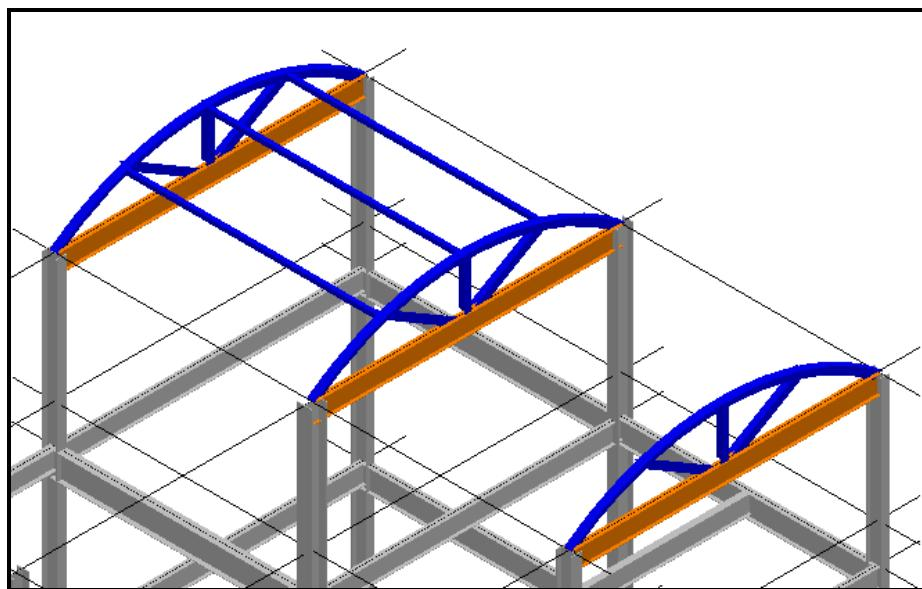

Figure 11 – ISO View of the Structure U03
26. Select Place Framing Members command. Use the view shown in Figure 11 to place the structural members.